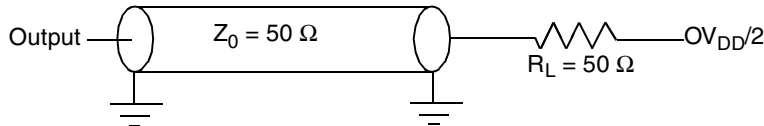

Figure 30. AC Test Load for the JTAG Interface
1. All outputs are measured from the midpoint voltage of the falling/rising edge of t_{TCLK} to the midpoint of the signal in question. The output timings are measured at the pins. All output timings assume a purely resistive 50-Ω load (see Figure 30). Time-of-flight delays must be added for trace lengths, vias, and connectors in the system.
2. The symbols used for timing specifications herein follow the pattern of $t_{(first\ two\ letters\ of\ functional\ block)(signal)(state)\ (reference)(state)}$ for inputs and $t_{(first\ two\ letters\ of\ functional\ block)(reference)(state)(signal)(state)}$ for outputs. For example, t_{JTDVXH} symbolizes JTAG device timing (JT) with respect to the time data input signals (D) reaching the valid state (V) relative to the t_{JTG} clock reference (K) going to the high (H) state or setup time. Also, t_{JTDXKH} symbolizes JTAG timing (JT) with respect to the time data input signals (D) went invalid (X) relative to the t_{JTG} clock reference (K) going to the high (H) state. Note that, in general, the clock reference symbol representation is based on three letters representing the clock of a particular functional. For rise and fall times, the latter convention is used with the appropriate letter: R (rise) or F (fall).
Figure 30 provides the AC test load for TDO and the boundary-scan outputs.
Figure 30 provides the AC test load for the I²C.
Figure 30 provides the AC test load for PCI.